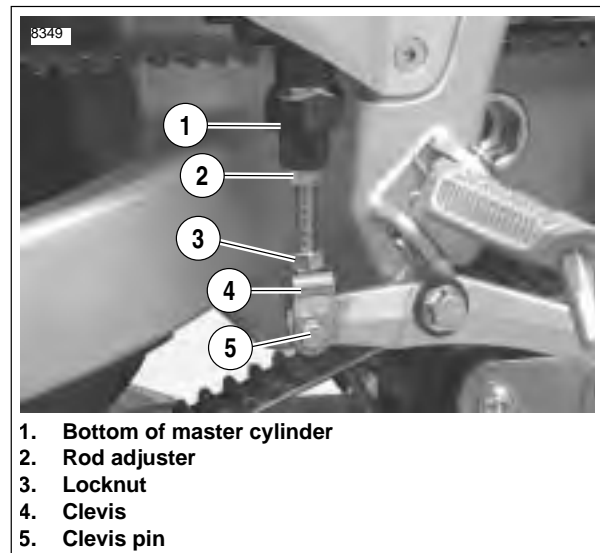

Figure 1-13. Pushrod Adjustment
1. See Figure 1-13. Inspect for minimum and maximum brake rod engagement in brake clevis (4). Adjust as required.
- a. See Figure 1-13. Loosen locknut (3) while holding rod adjuster (2). Move locknut away from top surface of clevis (4).
- c. Return locknut (3) to fit flush against top surface of clevis and tighten to 130-173.5 in-lbs (14.7-19.6 Nm).